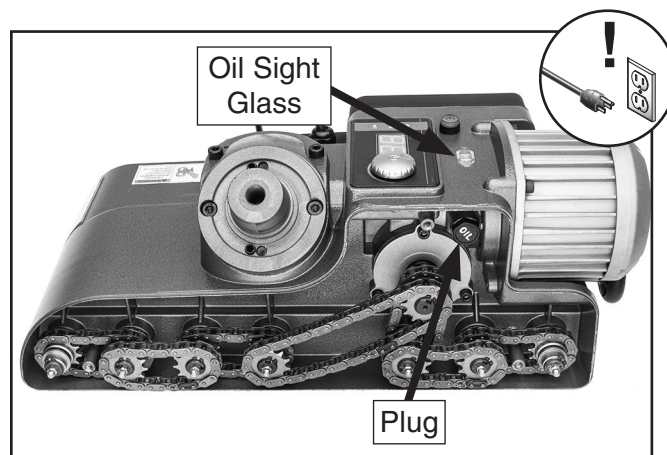

Figure 37. Location of gearbox plug/oil drain and sight glass.
4. Place drain pan under plug labeled "OIL," then remove plug (see **Figure 37**) and drain oil.